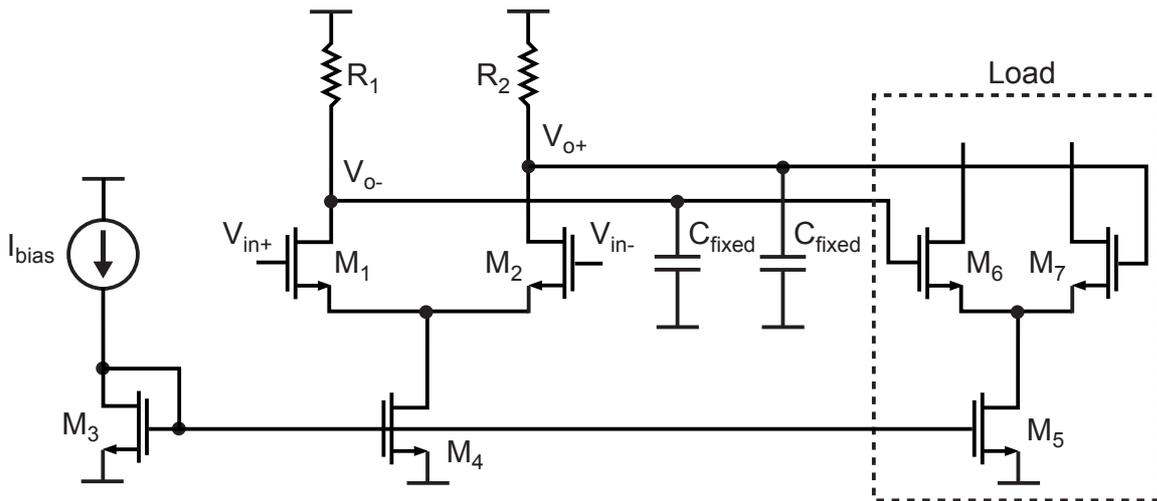

Figure 4: A high speed differential amplifier.
4. This problem focuses on the design of the broadband differential amplifier shown in Figure 4 based on the techniques described in class. Perform all computations based on the transistor models contained in the 0.18u Hspice model file provided on Athena in the file /mit/6.976/Models/0.18u/mos018.mod. For simplicity, assume all devices are the same size with transconductance g_m , all resistors are of the same value R , and that C_{fixed} , which corresponds to wiring capacitance, equals 15 fF.